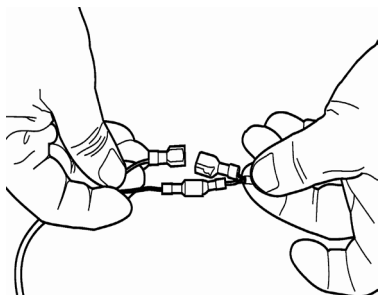

Figure 19
5. Connect sensor wires together. These are the 4 plastic red connectors. They should line up and snap together (Figure 19).
8. Connect sensor wires together. These are the 4 plastic red connectors. They should line up and snap together (Figure 19).